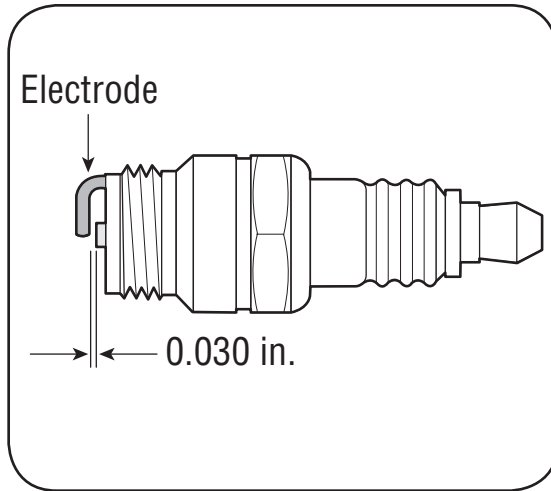

Figure 10-4
3. Measure the plug gap with a feeler gauge. Correct as necessary by bending side electrode. See Figure 10-4. The gap should be: 0.70-0.80 mm